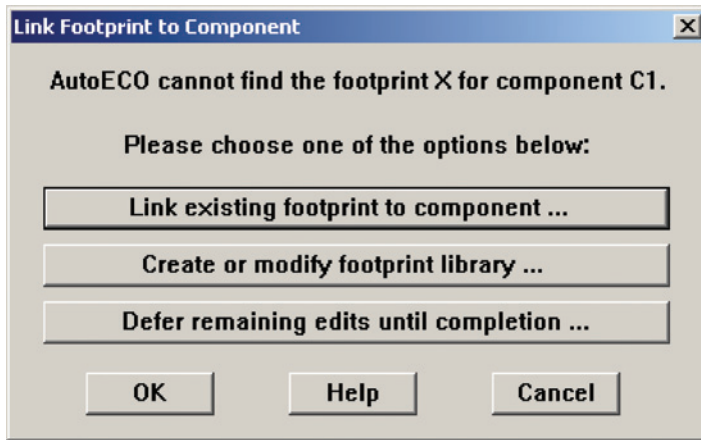

Figure 3-5 Link Component to Footprint dialog box.
If no footprints were assigned to parts in Capture or if one was assigned that does not exist in the Layout footprint library, the AutoECO brings up the **Link Footprint to Component** dialog box (shown in Fig. 3-5) and gives you three options: (1) link a footprint to one of the Layout libraries, or (2) make a new footprint now and link it to the part, or (3) do not do anything right now.